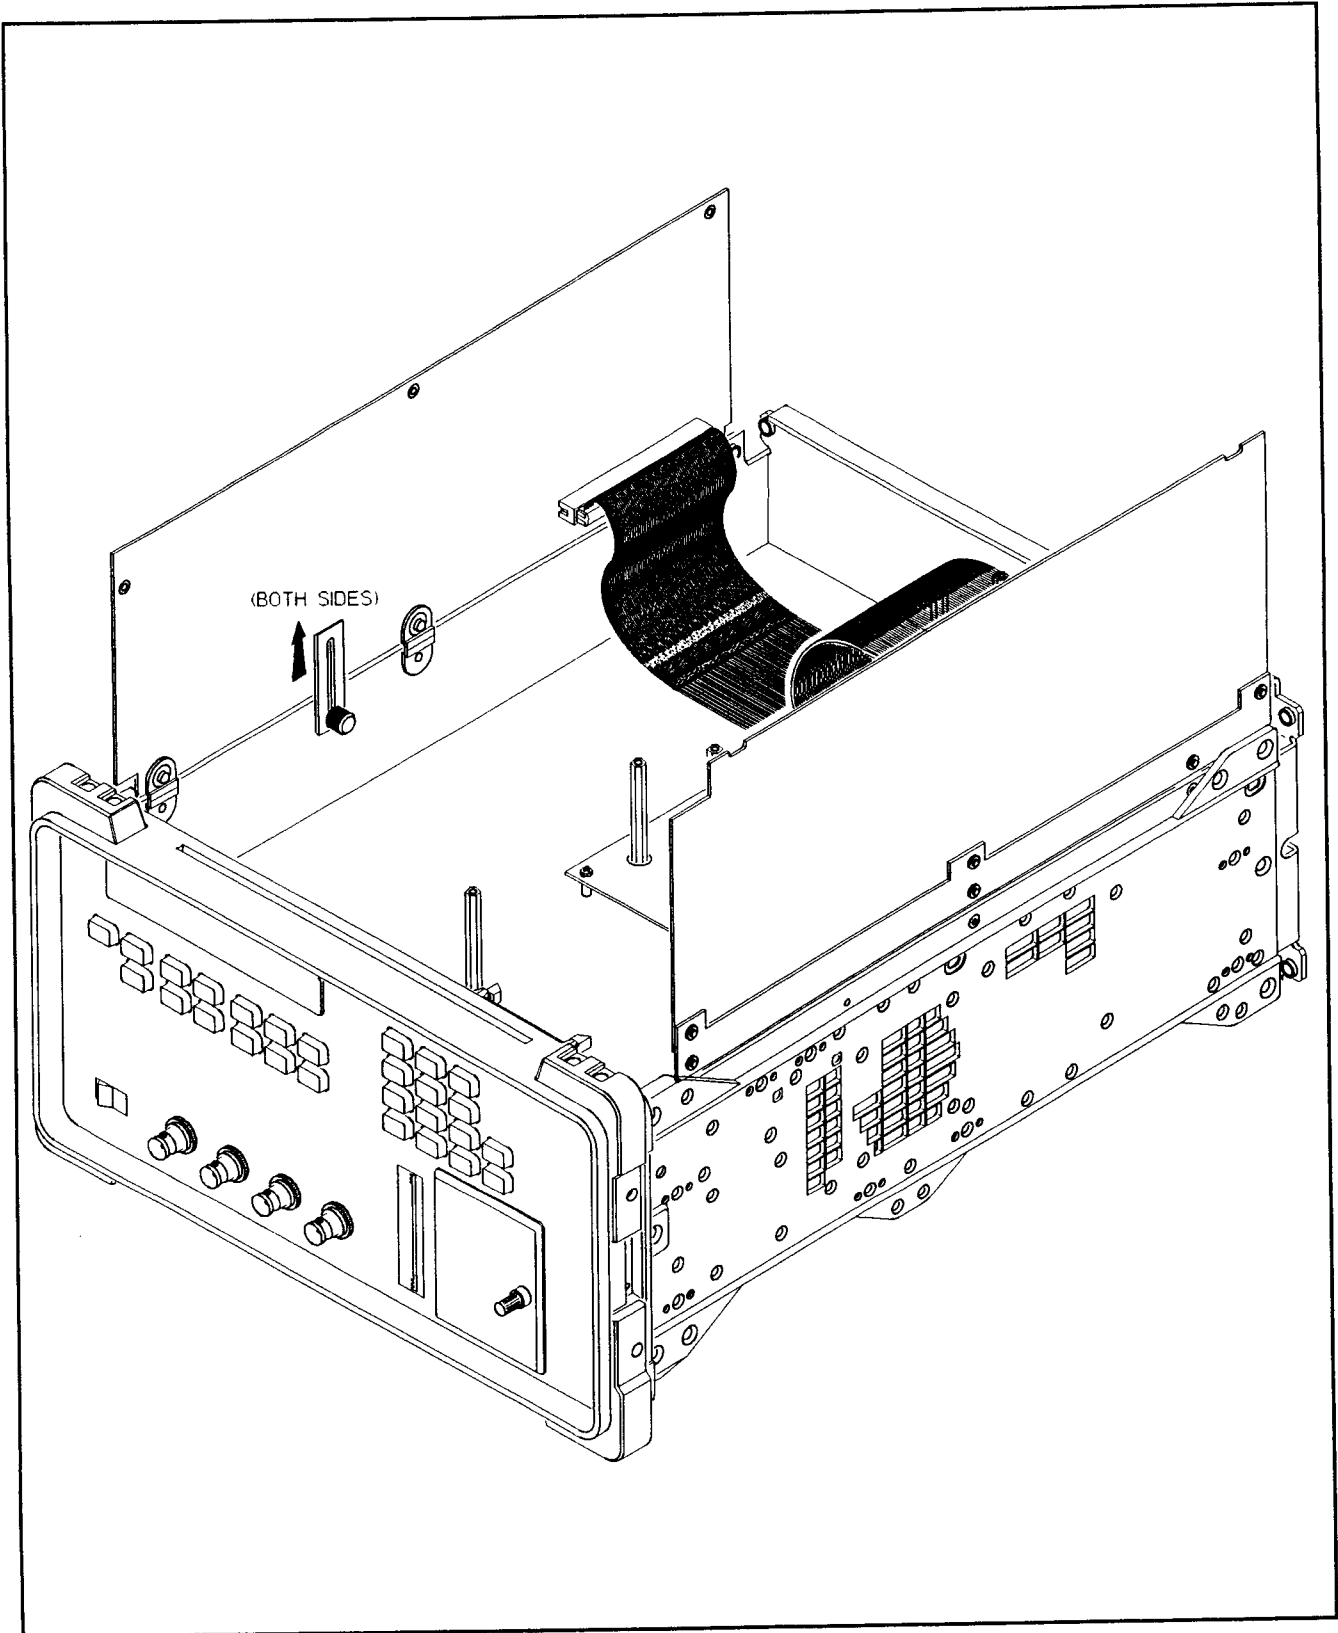

Figure 2-1. MFS Service Position
- Fig 2-1. Service Position
When servicing the MFS, it is necessary to place the Interface (A2) and CPU (A11) assemblies in a vertical service position (see Figure 2-1) in order to access the remaining assemblies. Both boards are hinged so that they can rotate into this position.